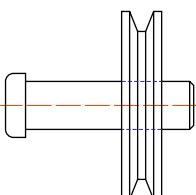

Fig. 10.18 The revised spindle.dwg drawing
- Open **Fig15.dwg** and make changes as shown in **Fig. 10.18**.